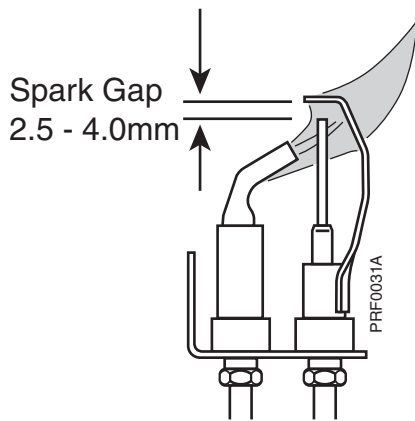

Fig. 30
The pilot is pre-set and no adjustment is required. The pilot flame envelope should cover the electrode tip and spark earthing strip, see Fig. 30. If the pilot flame is not as illustrated, remove and clean the pilot as described in the Servicing Instructions Section 4.3, Pilot Burner, Page 26.
- I. Ensure that the spark gap is as illustrated in Fig. 30.
6. Replacement is the reverse of removal. On re-assembly ensure that the spark gap is as illustrated in Fig. 30.